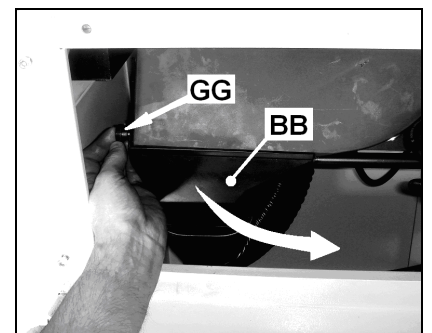

Fig 26
Remove the lock knob (GG, Fig 26) and lower the dust port (BB).